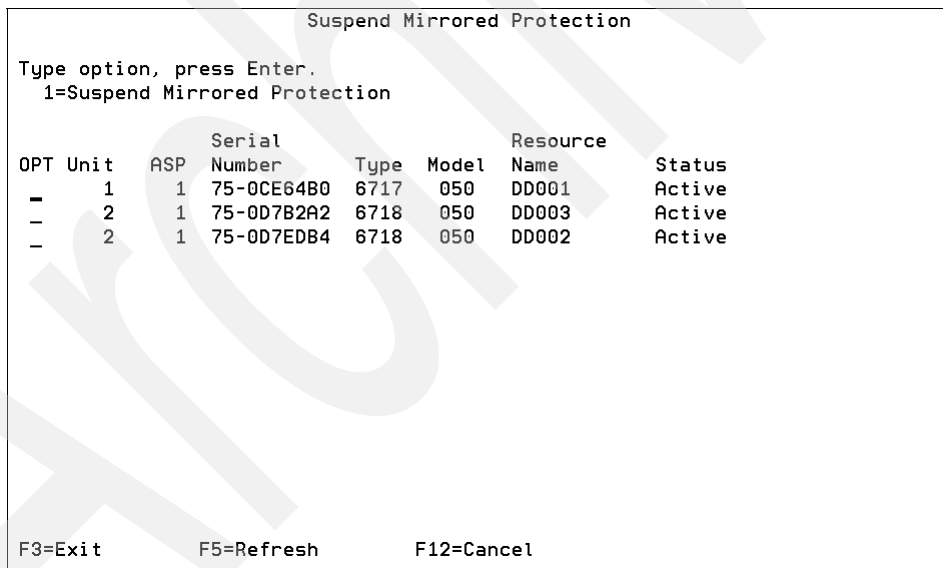

Figure 3-30 The Suspend Mirrored Protection screen
- f. At the Suspend Mirrored Protection screen (Figure 3-30), select unit 1 (the load source mate).